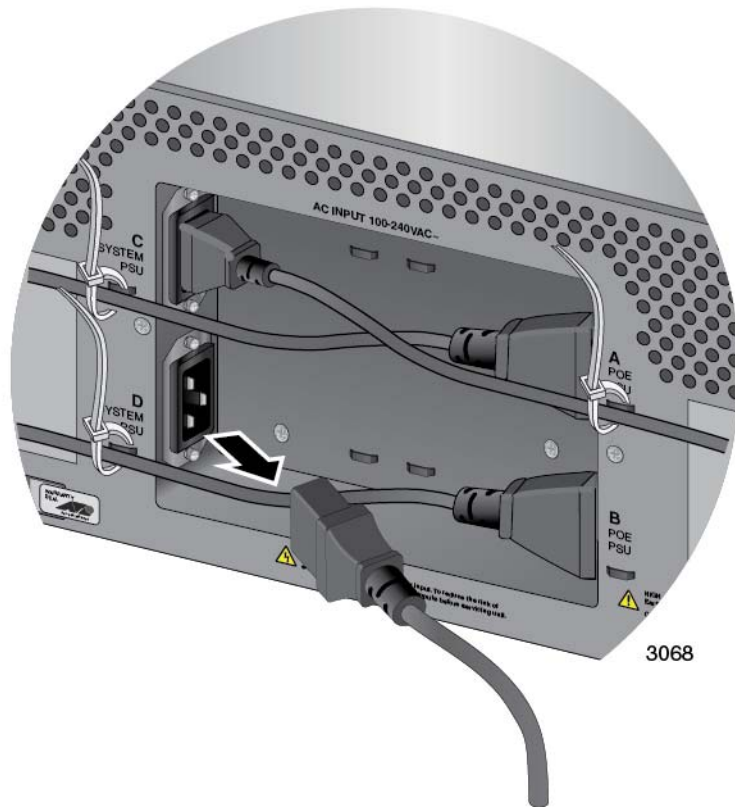

Figure 166. Disconnecting the AC Power Cord from the AC Socket on the Back Panel
1. Disconnect the AC power cord for the power supply from the AC power source and the corresponding AC socket on the back panel of the chassis. The figure in Figure 166 on page 281 shows the removal of the power cord from connector D, which corresponds to power supply slot D on the front panel.